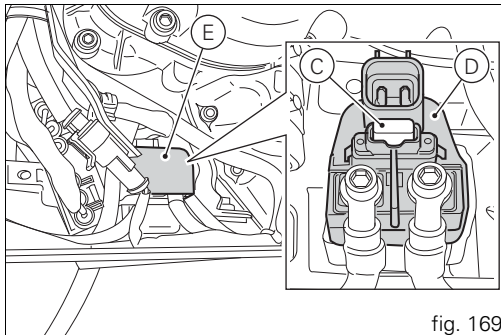

fig. 169
MASTER FUSE, protected by a 30A fuse located on the solenoid starter, behind the battery (C, fig. 169).
The main fuse (C, fig. 169) is positioned next to the battery, on the solenoid starter (D). Remove the fuse cap (E) to reach it.